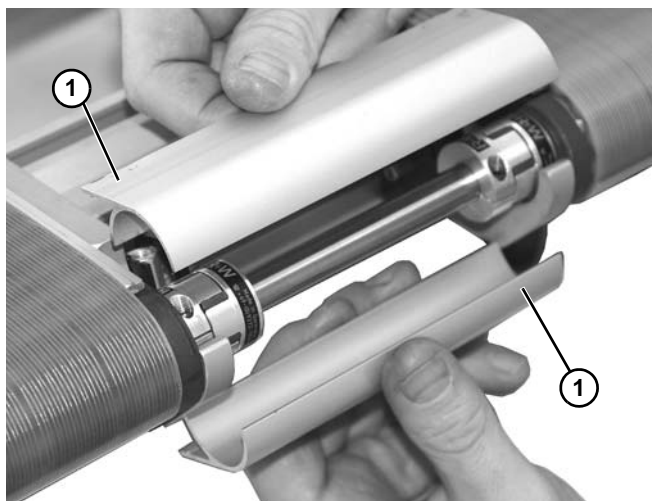

Figure 31
12. Install top guard and bottom guard (**Figure 31, item 1**) over shaft and 3-jaw couplers.